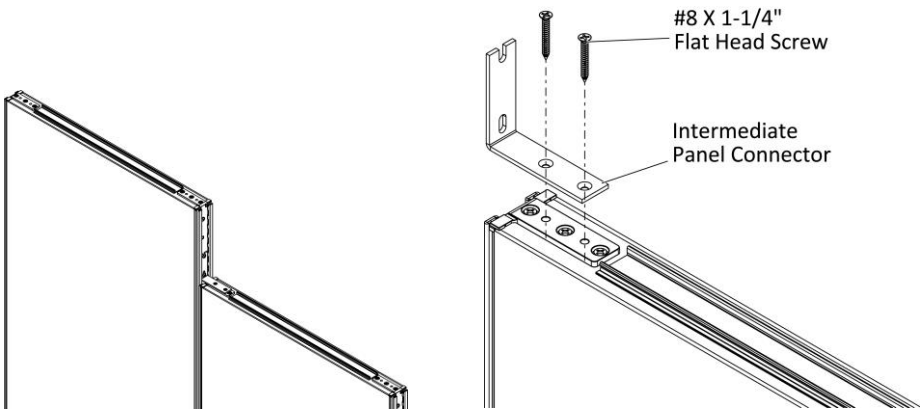

Figure 1
1. Position the intermediate panel connector on the top edge of the shorter panel, (Figure 1).